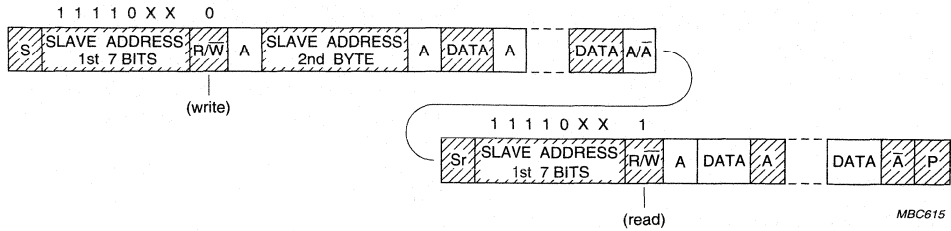

Fig.28 Combined format. A master addresses a slave with a 10-bit address, then transmits data to this slave and reads data from this slave.
- Combined format. A master transmits data to a slave and then reads data from the same slave (Fig.28). The same master occupies the bus all the time. The transfer direction is changed after the second R/W bit.